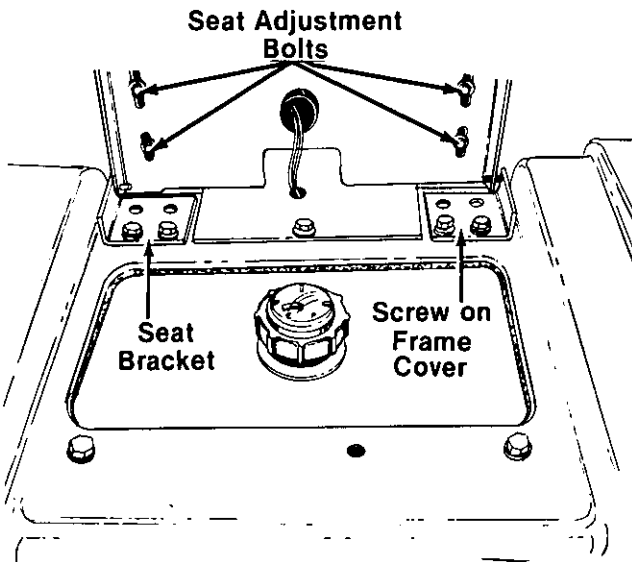

FIGURE 14.
Before starting the tractor, adjust the seat to the most comfortable driving position. Tilt the seat forward over the steering wheel, loosen the four bolts in the seat support, and slide the seat assembly forward or rearward to the position which is most comfortable for the operator. See figure 14.
1. Remove the seat by tipping the seat forward, removing two screws from one seat bracket, and sliding the seat off the unit. Refer to figure 14.
2. Remove one screw from the back of frame cover (see figure 14), and remove one screw from each side. Lift off frame cover.